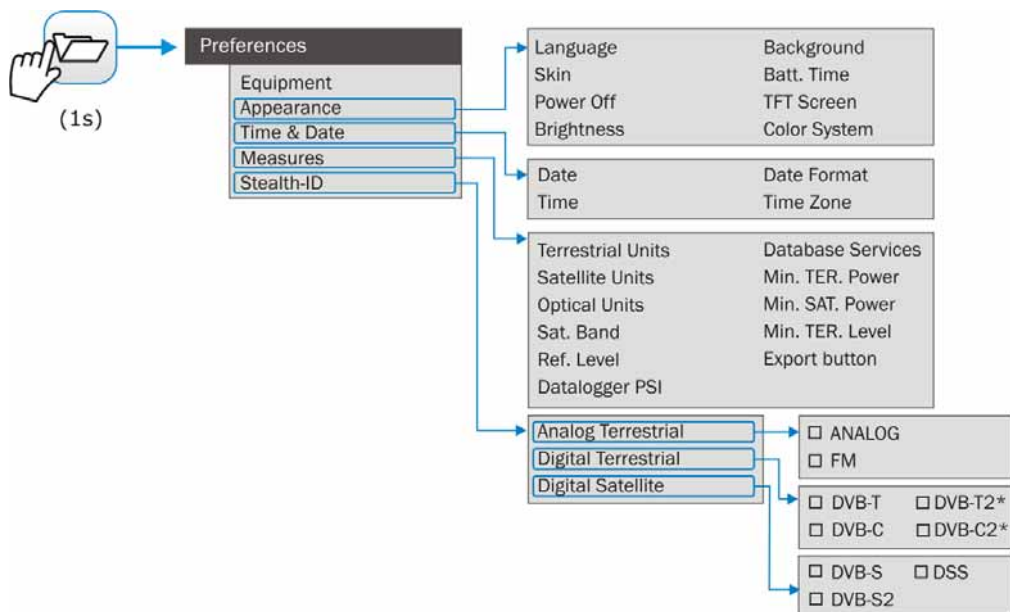

Figure 7.
- 2 In the **StealthID** tab, select the signal types to auto-identify (see figure 7). By default all them are selected. Press the  key to save the changes made and the  key to exit the **Preferences** screen.